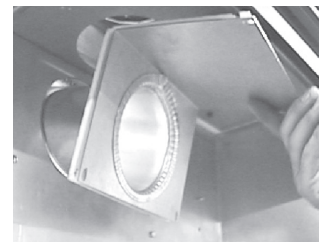

Fig. 2
- F. Secure the flue collar assembly, gasket and rear exit shield using the four hex head 3/8" thread cutting screws (**Fig. 2**).